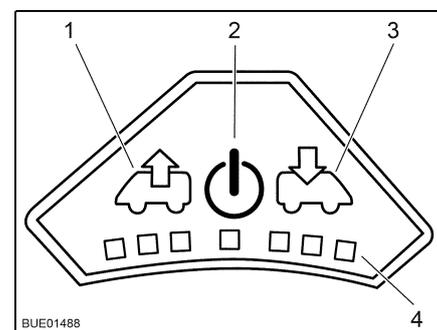

Fig. 92 Control panel for fan
Switching on: ■ Press the On/Off button (Fig. 92,2). The fan runs in comfort mode (venting at slowest fan speed).
Venting: ■ To increase the fan speed: Press the Vent button (Fig. 92,1). The fan speed in the venting direction increases by one level. LEDs (Fig. 92,4) show the operating levels.
■ To lower the fan speed: Press the Aerate button (Fig. 92,3). The fan speed decreases by one level.
Aerating: ■ To increase the fan speed: Press the Aerate button (Fig. 92,3). The fan speed in the aerating direction increases by one step. LEDs (Fig. 92,4) show the operating levels.
■ To lower the fan speed: Press the Vent button (Fig. 92,1). The fan speed decreases by one level.
Switching off: ■ Press the On/Off button (Fig. 92,2). The fan stops, the LEDs go out.